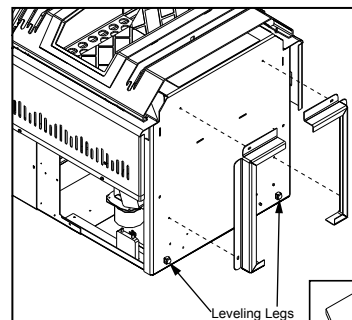

Figure 22: Installing Pedestal
There are two parts to the GF155-2 insert pedestal and they can be found inside the hopper. Place unit on its back. Two (2) hex head screws are used on each side of the pedestal (refer to Figure 22). Using a 5/16" wrench or socket, secure the pedestal to the bottom of the unit.